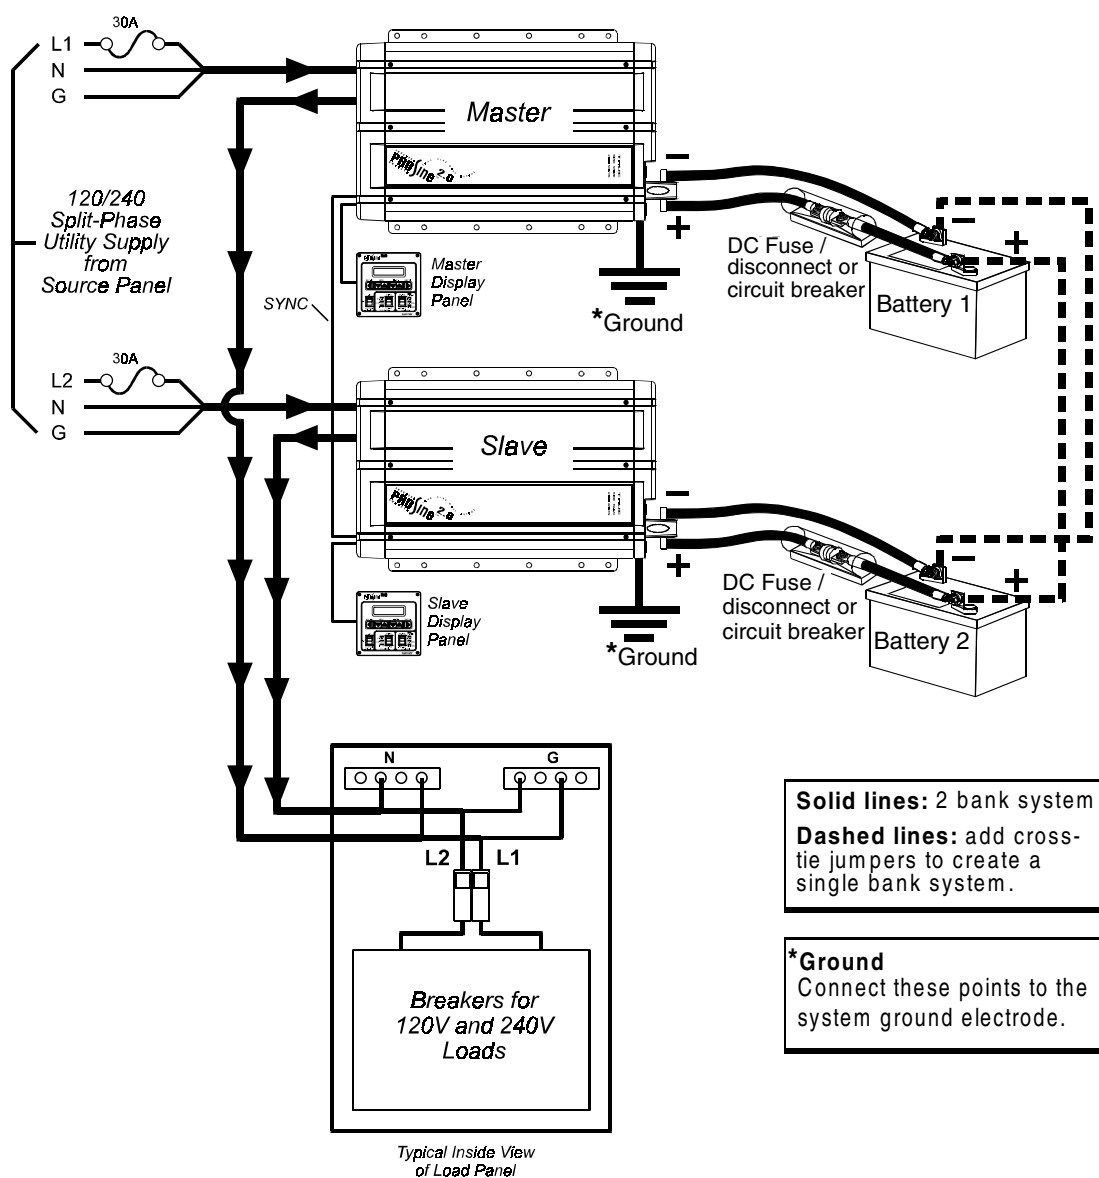

Figure 20 Two Inverter•Charger Series Operation System
A two-unit series operation system requires the same components that a single inverter•charger system requires. In many cases, however, two components are required, some are applied differently, and a 10 foot series sync cable is required. See Figure 20.
- Connect the system as shown in Figure 20, on page 85.